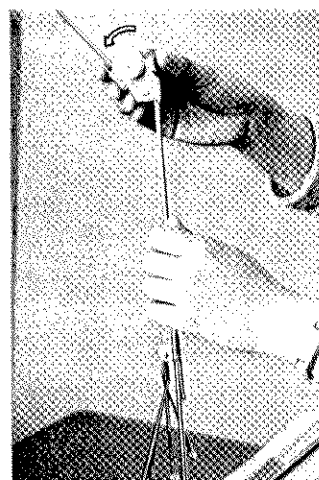

Fig. 10A
- c. Turn the unit to stand up the tension springs on the top of tension rod, until you hear a click. (See Fig. 10A)